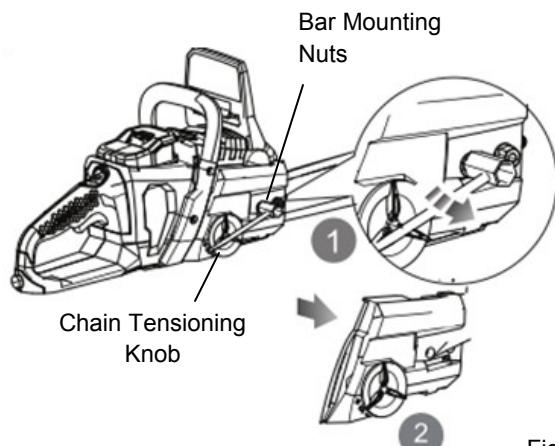

Fig. 5
- Loosen the chain by turning the chain tensioning knob counterclockwise. Remove the bar mounting nuts from the cover using the combination wrench provided. Remove the sprocket cover. (Fig. 5)